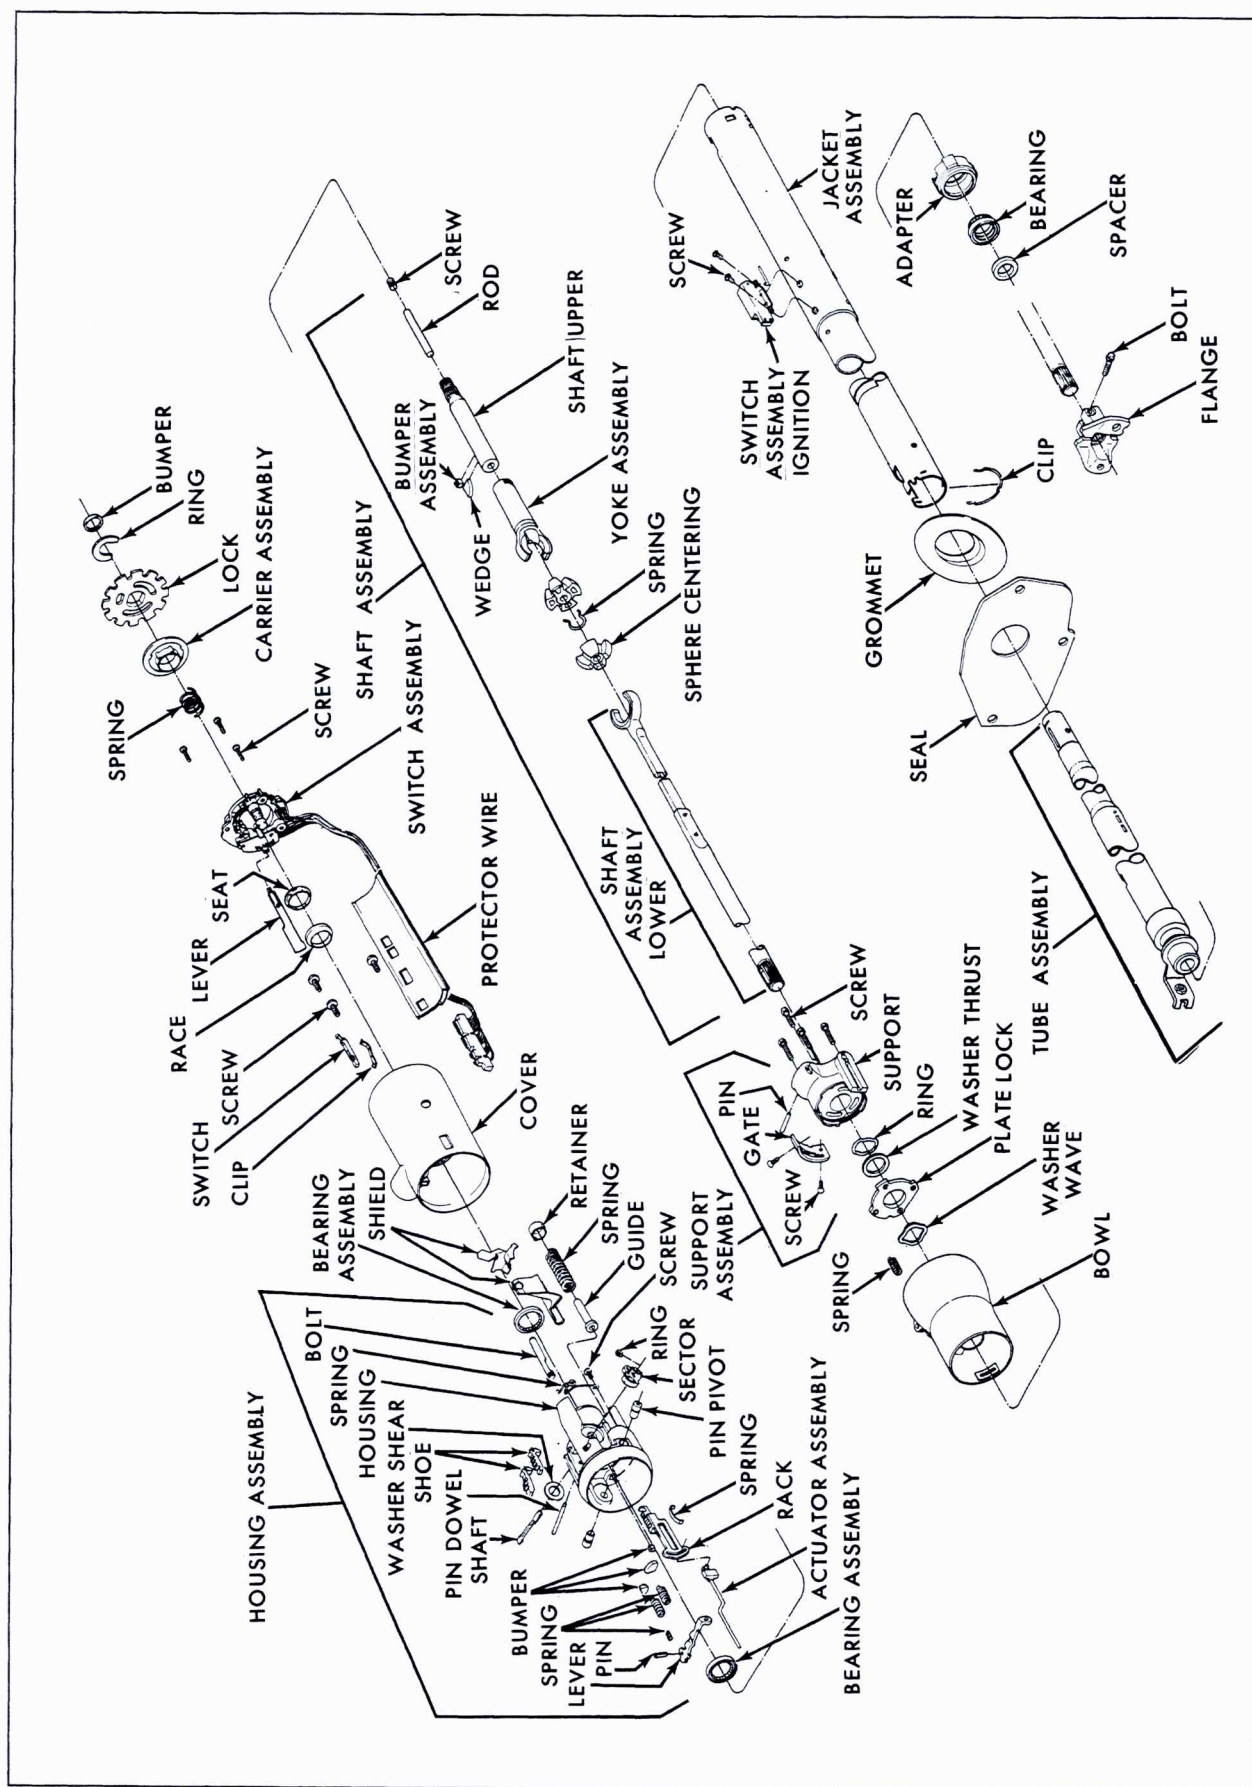

Fig. 9-51 Tilt and Telescope Column Disassembled
24. Tilt and Telescope Column Disassembly, Inspection and Assembly (Fig. 9-51)